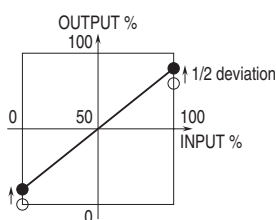

Fig. 8
4) Set the input to 100%. If there is a deviation in output signal, compensate half of the deviation via the Zero adjustment. See Figure 8.